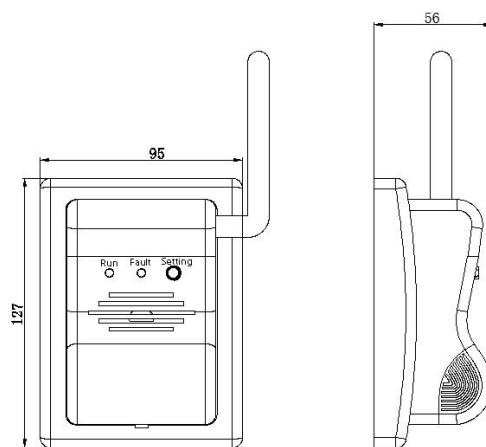

Figure 1 Schematic diagram of the appearance of the alarm
4.1、 The outline diagram of the module is shown in Figure 1: